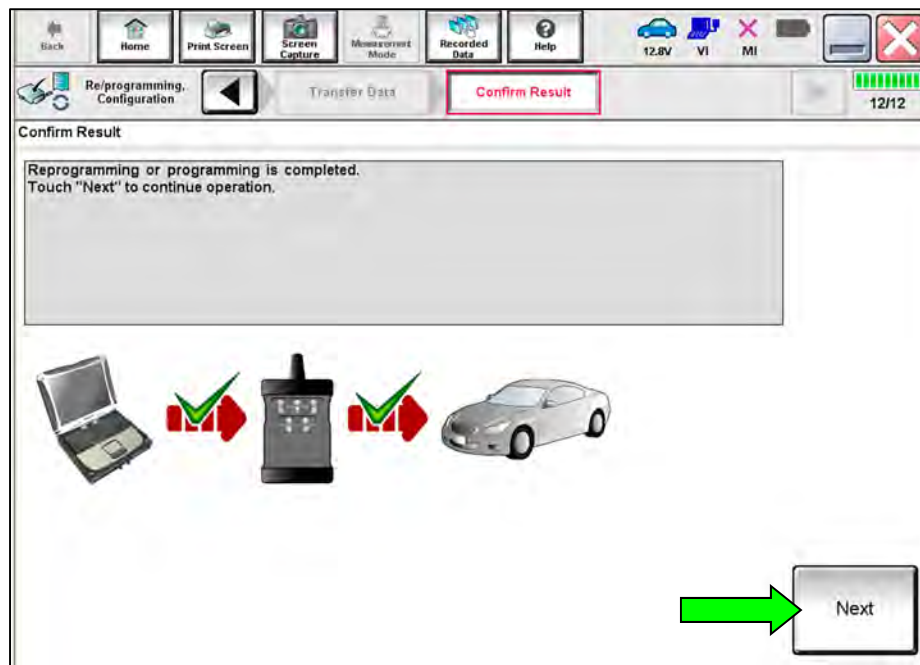

Figure 14
**HINT:** When the screen in Figure 14 displays, A/C Amplifier reprogramming is complete. If the screen in Figure 14 does not display (indicating that reprogramming did not complete), refer to the information on the next page.